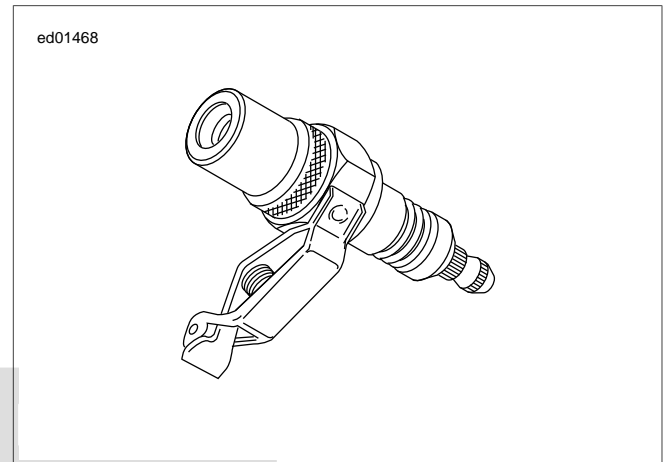

Figure 2-29. Spark Tester
- See Figure 2-29. Attach cable to SPARK TESTER (Part No. HD-26792). Clip tester to cylinder head bolt.